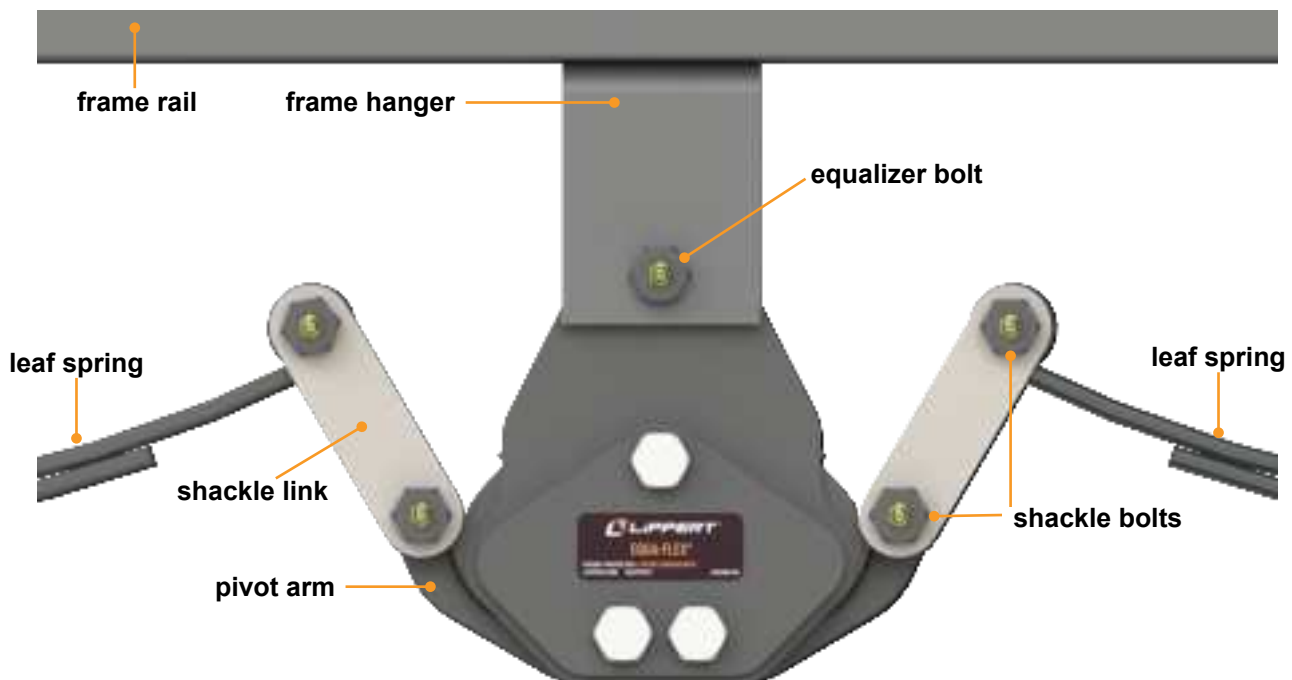

Fig.3
NOTE: Reference figure 3 rear Equa-Flex axle for component clarification during installation.
9. Lower the trailer evenly to the ground. Use care to avoid jarring movement. The trailer **MUST** not be dropped to the ground. Make sure the shackle links are upright and located approximately in the 10 o'clock and 2 o'clock position (Fig.3).